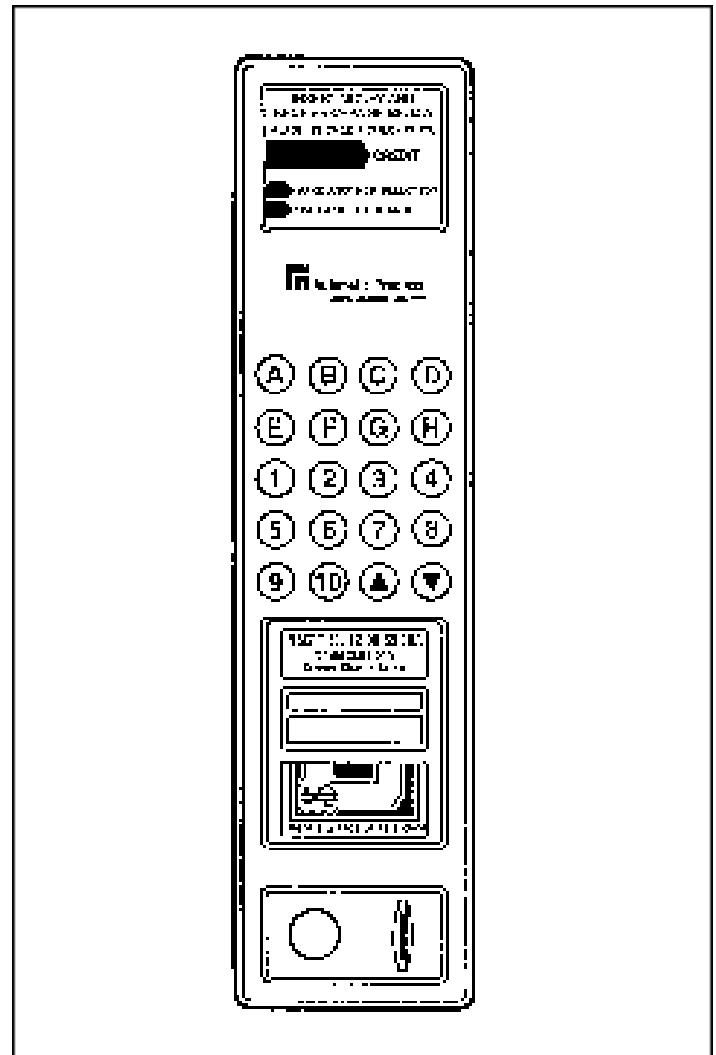

Figure 10.
4. **PRESS #4 - Price Set Mode.** To begin the price setting procedure, press key [4]. The controller will display "Prc" and wait for a selection to be entered. Once the selection is entered, the current price will be displayed. The price can now be increased with the scrolling up (▲) button or decreased with the scrolling down (▼) button. (Figure 10.) The maximum price can be set to \$99.95. Setting a selection price to "0.00" will put it on free vend.
- Using the up (▲) or down (▼) buttons will change to the price desired. (Figure 10.)
6. **Selection Panel.** The selection panel (Figure 10.) on the Snackshop LCM incorporates that use of a self enclosed membrane switch panel. This eliminates the need for individual switches and wiring. The membrane switch panel is housed in a panel with individual buttons protecting the switch face. The panel front also houses the display lens. The display lens gives instructions to the customer for 2 conditions which might occur (make another selection/use correct change). The display lens also contains 3 LED lights.